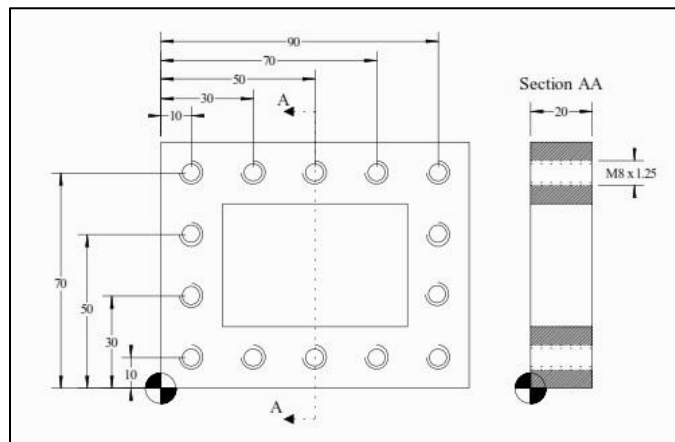

Figure 18: Drilling operation on the job.
8.2 Generate a Numeric code to create a hole of M5x1.25 diameter at positions given below in figure 18.